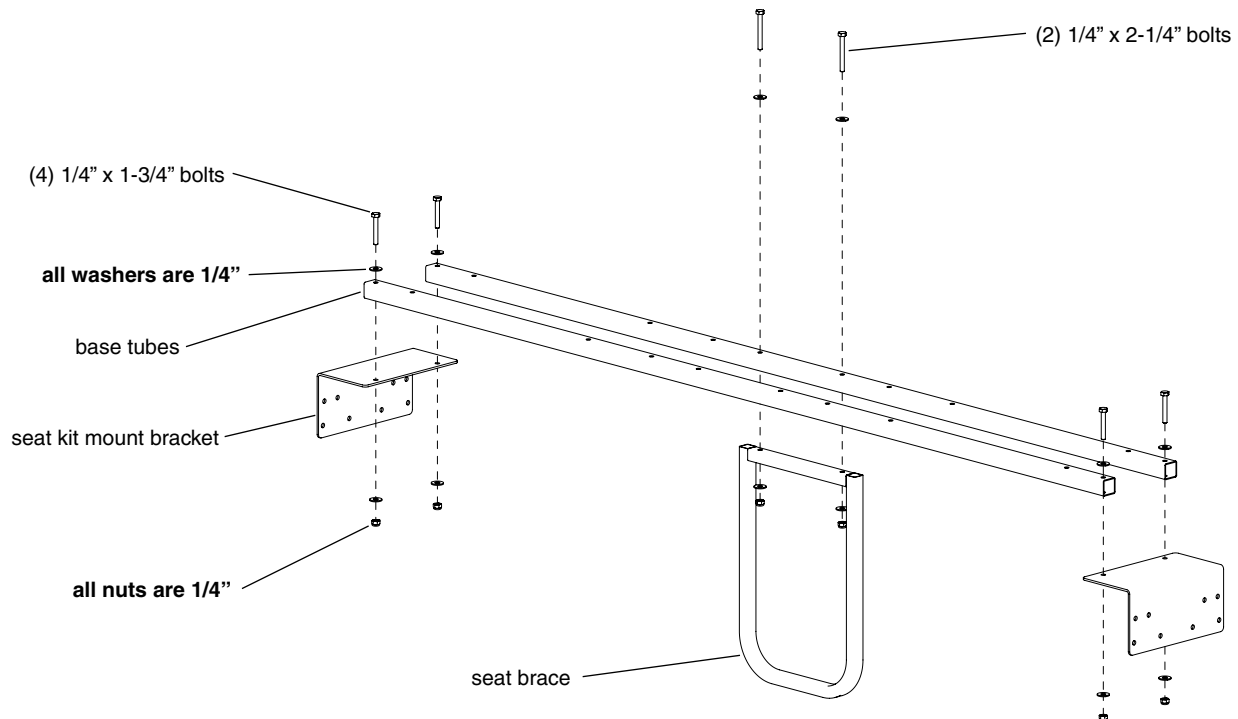

FIGURE 5A
2. Attach (2) base tubes (68441) to the top side of seat kit mount brackets using (4) provided 1/4-20 x 1-3/4" bolts, nyloc nuts and (8) washers. **SEE FIGURE 5A.**
3. Attach seat brace (68440) to bottom of rear base tube using (2) provided 1/4-20 x 2-1/4" bolts, nyloc nuts and (4) washers. **SEE FIGURE 5A.**